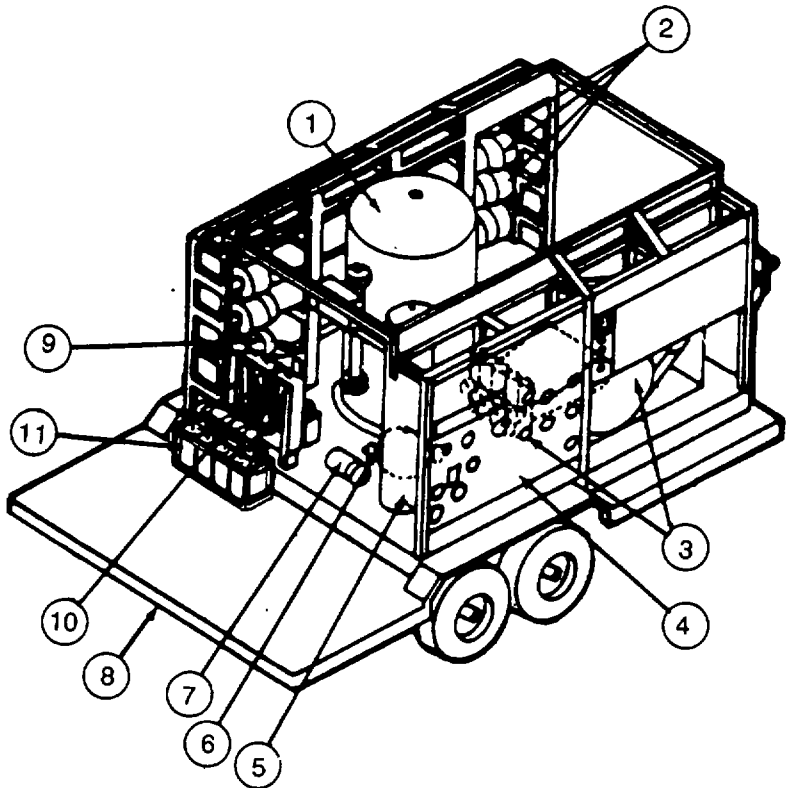
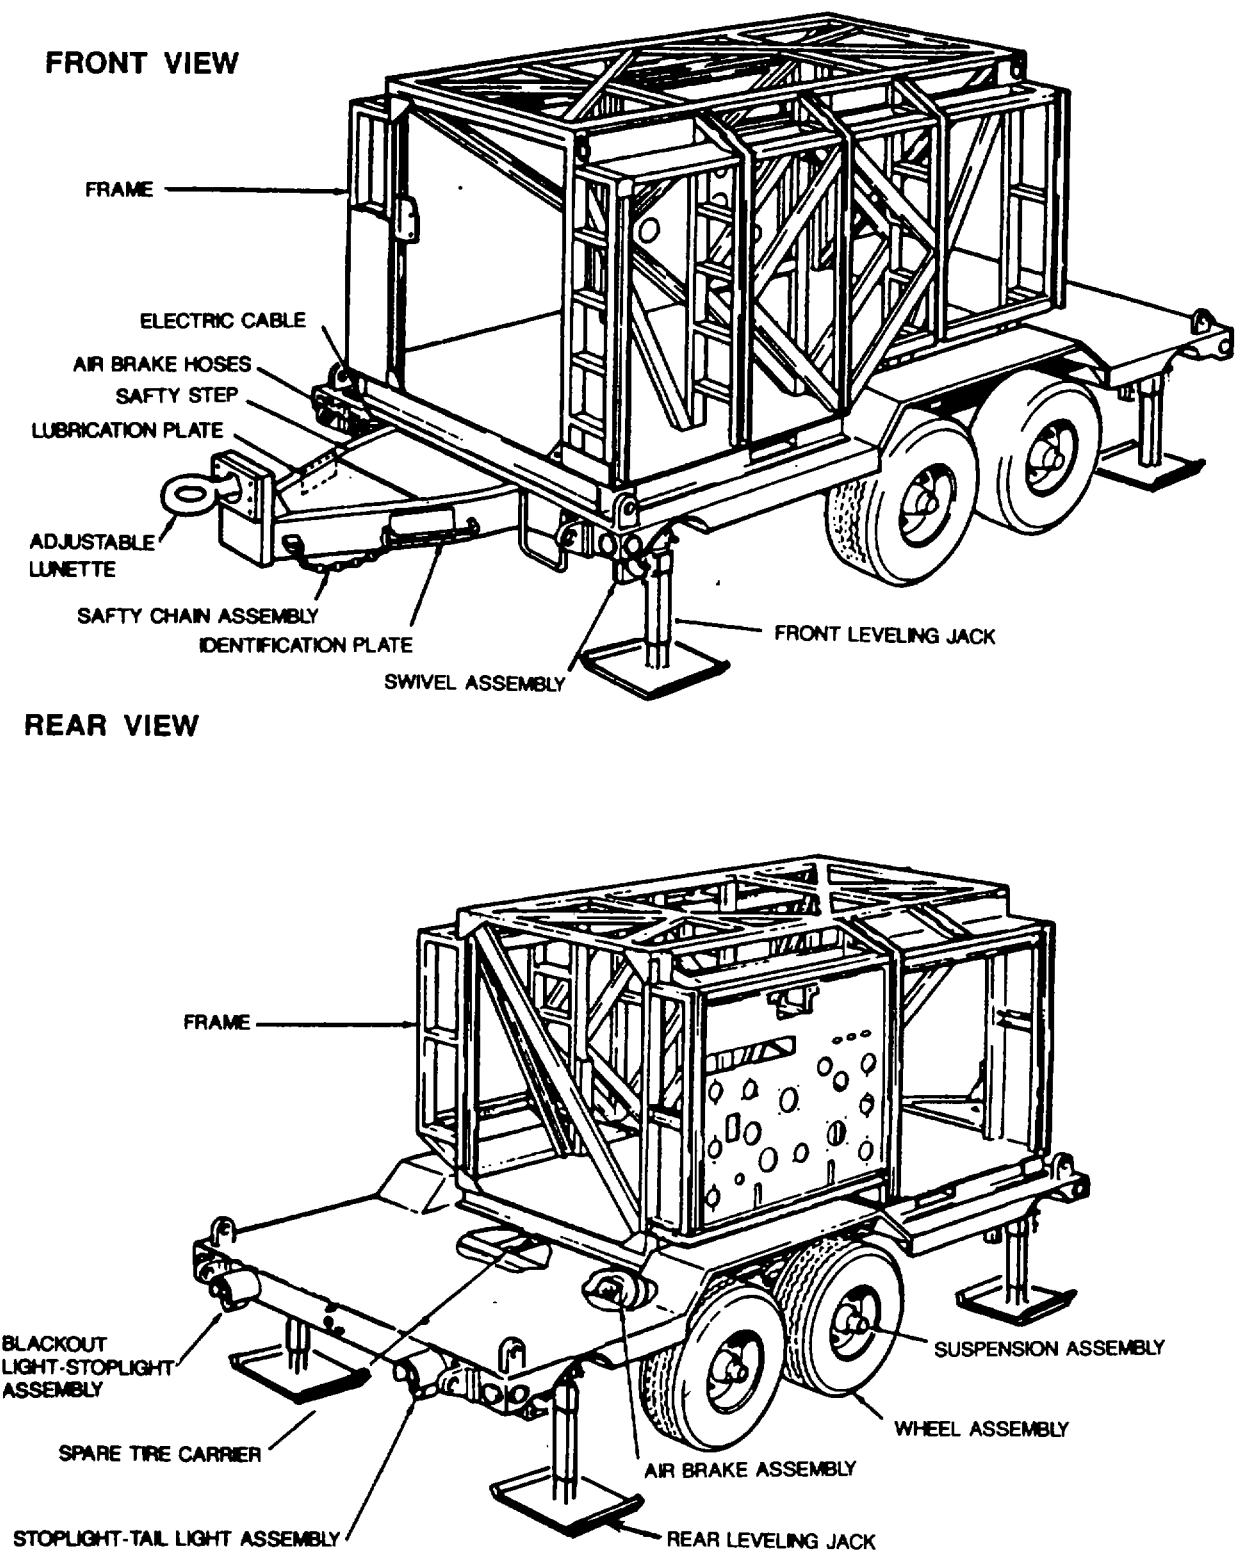

Figure 1-13. ROWPU - Generator Removed (Rear View)
Figure 1-14. ROWPU Flatbed Trailer And Frame (Army Model No. 0996109001)
e. Figure 1-13 identifies the following parts:
**MULTIMEDIA FILTER (1).** Provides first stages of removing unsafe matter from raw water.
**R.O. PRESSURE VESSELS (2).** Loaded with rolled, thin films (called elements). Here, osmosis is reversed by applying pressure to reduce dissolved solids from raw filtered water.
**R.O. PUMP (3).** Applies very high pressure to raw filtered water flowing through R.O. pressure vessels.
**CONTROL PANEL (4).** Panel on the control box assembly with meters, control valves, hose connections, and electrical switches.
**CARTRIDGE FILTER (5).** Provides more cleaning to water coming out of the multimedia filter.
**PULSE DAMPENER (6).** Located behind the cartridge filter, reduces shock (water pulses) caused by R.O. pump.
**BOOSTER PUMP (7).** Forces water from multimedia filter through the cartridge filter.
**GENERATOR PLATFORM (Army) (8).** A 30-kW generator set is mounted on this platform.
**PRIME/RUN VALVES (9).** Allows pumps to be primed in the PRIME position and dispenses chemicals in the RUN position.
**CHEMICAL FEED PUMP (10).** Pumps chemicals into water being processed.
**CHEMICAL FEED CONTAINERS (11).** Hold chemical solutions (polymer, sodium hex, citric acid, and chlorine) which are fed into chemical feed pump.
f. Figure 1-14 (Army) shows the location of the trailer's major components. The Marine Corps ROWPU is skid mounted, but the frame is the same as shown.